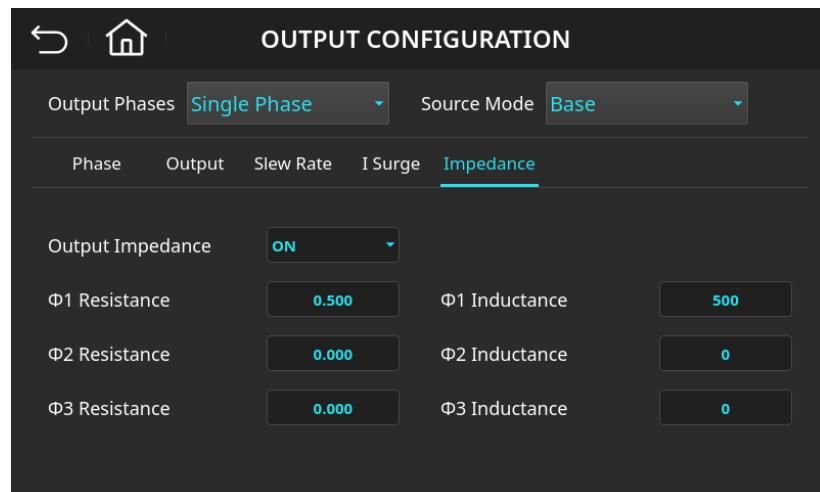

Figure 4-47: Programmable Output Impedance (Impedance) Function Page ( $\Phi 1$  R Impedance = 0.5,  $\Phi 1$  L Impedance = 500)
5. Enter **5**, **0**, **0** then press the **Enter** key. The value will change to “500”, as shown in Figure 4-47.